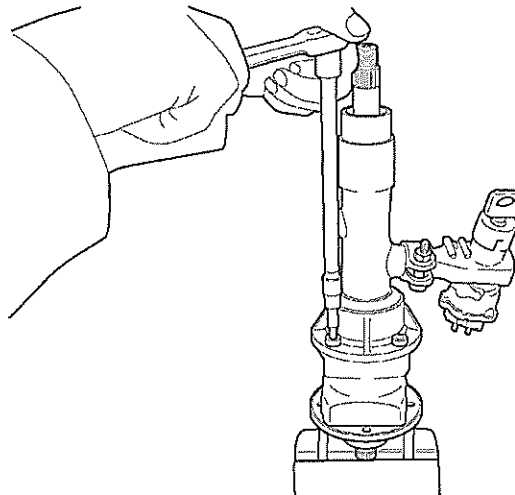

Fig 13 Removing steering spindle housing
- 30.9 Screw two longer bolts into hydraulic steering valve and clamp valve into vice, and then remove steering spindle housing. To detach housing, turn key in steering lock to position 1 (see Fig 13).